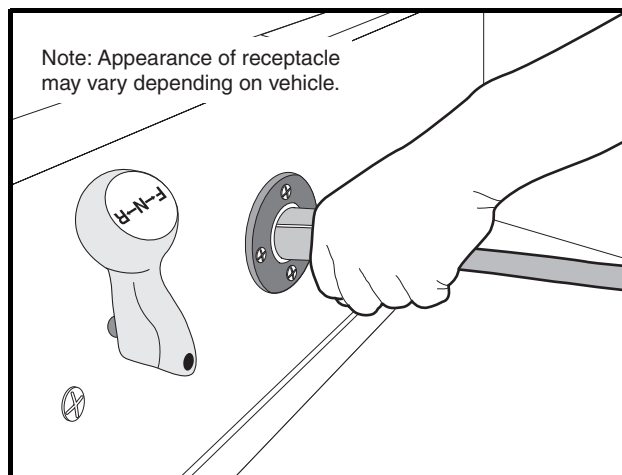
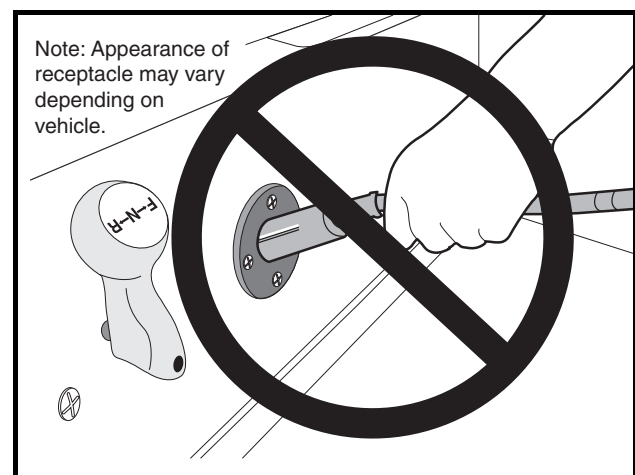

Figure 2 Charger Receptacle
Figure 3 Incorrect DC Plug Removal
- **The charger plug must be pulled slowly from the receptacle (Figure 2). Jerking or pulling the DC cord out quickly could cause arcing and burning that could damage the plug and receptacle and could cause batteries to explode (Figure 3).**
- Do not rock or bend the plug. To connect the charger plug to the vehicle receptacle, grasp the plug handle and push the plug straight into the receptacle (Figure 2).
- Do not pull on the DC cord (Figure 3). Do not twist, rock or bend the plug. To disconnect the charger plug from the vehicle receptacle, grasp the plug by the handle and pull the plug straight out of the receptacle.
2. Connect the charger DC plug to the vehicle charger receptacle located on the seat support panel (**Figure 2**). The charger will activate automatically within 2 to 15 seconds after the DC plug is connected. **See following WARNING.**
- **Do not rock or bend the plug. To connect the charger plug to the vehicle receptacle, grasp the plug handle and push the plug straight into the receptacle (Figure 2).**
When inserting the DC plug into the vehicle receptacle, align the raised guide on the plug with the guide slot in the receptacle and slowly push plug straight in (**Figure 2**). To disconnect the plug from the vehicle, firmly grasp the plug, not the cord (**Figure 3**), and slowly pull plug straight out. **See following WARNING.**
- Do not rock or bend the plug. To connect the charger plug to the vehicle receptacle, grasp the plug handle and push the plug straight into the receptacle (**Figure 2**).
- Do not pull on the DC cord (**Figure 3**). Do not twist, rock or bend the plug. To disconnect the charger plug from the vehicle receptacle, grasp the plug by the handle and pull the plug straight out of the receptacle.